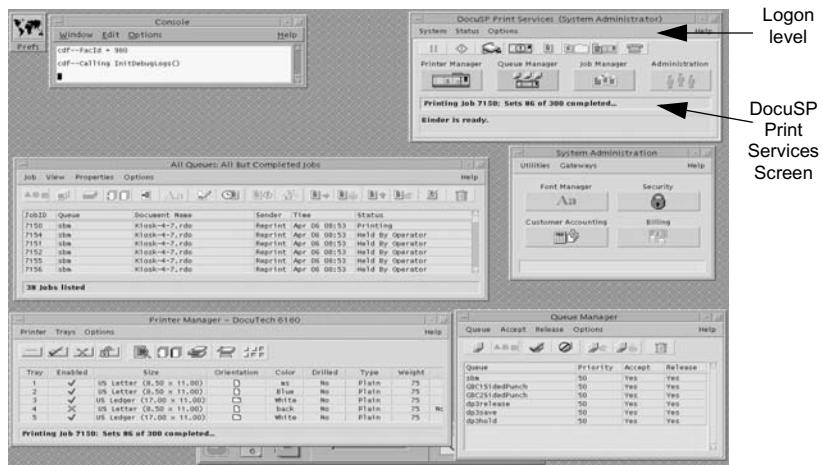

Figure 1-1: 61XX Monitor Screen
- a) Go to the DocuSP Print Services screen, as shown in Figure 1-1.